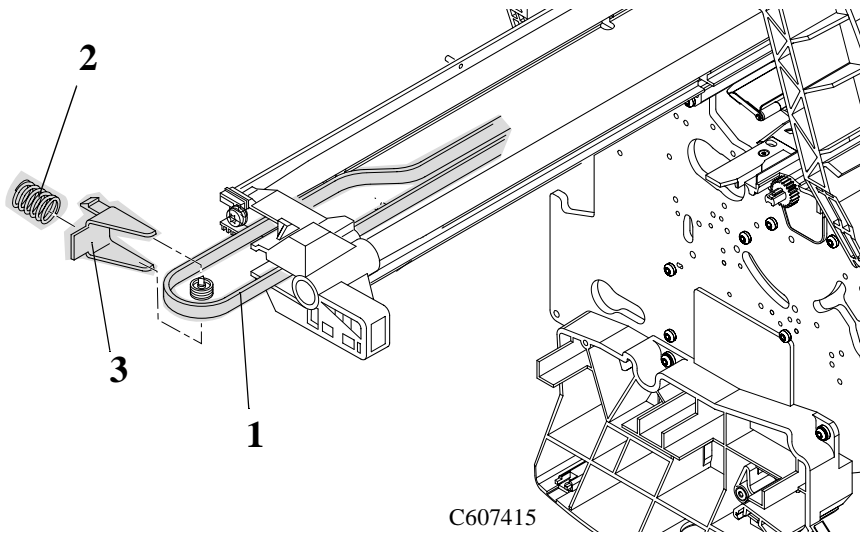

Figure 44: Carriage Assembly and Belt
9. To release the tension on the belt (item 1) from the left hand side of the Printer, squeeze the spring (item 2) using the tensioner wedge clip (item 3) until you hear it click into place (refer to Figure 44).